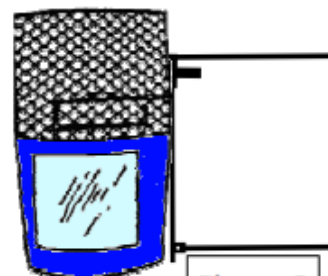

Figure 2
2. Remove the transportation chains from around the arms. Drop the Bottom Canvas Arm into the horizontal position. Remove the pin securing the Top Canvas Arm from its (vertical) transportation position and put in into its horizontal position, securing it with the pin. (See **Figure 2**.)